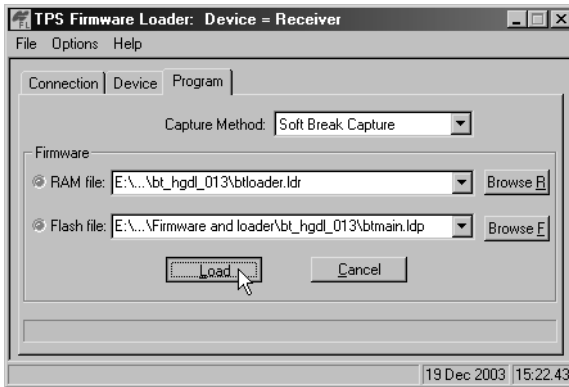

Figure 4-23. Program Tab Settings
2. Select the *Program* tab and set the *Capture Method* to Soft Break Capture (recommended) (Figure 4-23).
3. Browse for and select the Bluetooth module's RAM file and Flash file (Figure 4-23).